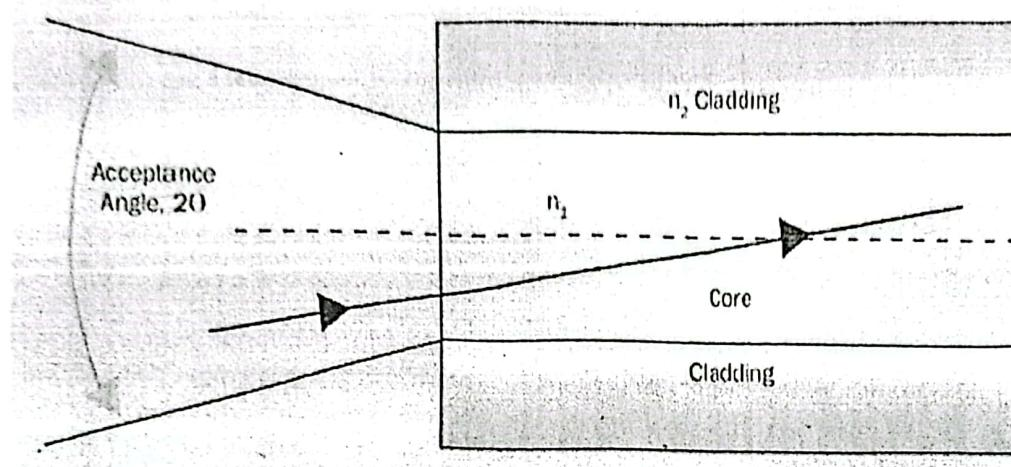

Figure 4. Numerical aperture depends on the angle at which rays enter the fiber and on the diameter of the fiber's core.
Numerical aperture (NA), shown in Figure 4, is the measure of maximum angle at which light rays will enter and be conducted down the fiber. This is represented by the following equation: